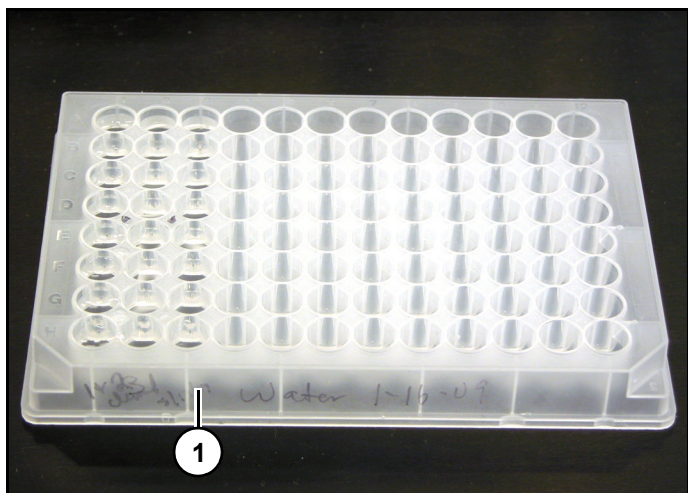

Figure 20
4. Prepare source plate (1) (Figure 20) with desired liquid at required volumes.